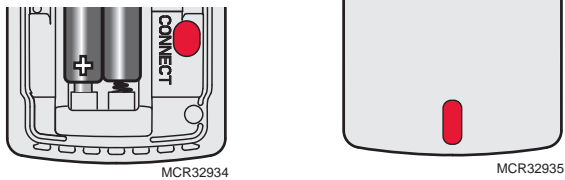

Fig. 51. Wireless indoor sensor connect button and status light.
1. Press and quickly release the CONNECT button. After a short delay, the status light (see Fig. 51) will glow green for 15 seconds. If the status light turns red, the sensor did not link with the thermostat.